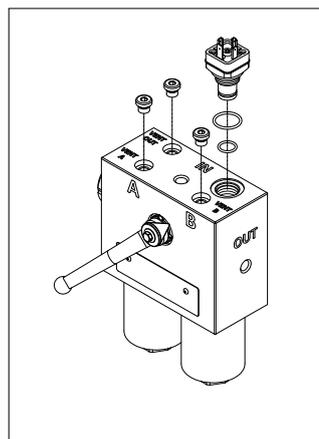

fig. 28
- (Fig. 28) Replace the O-rings of the indicator body and the breather plug